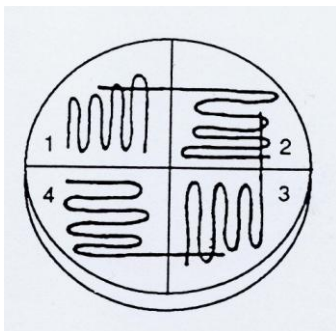

Figure 3
- With the drop of bacteria away from you, streak the culture back and forth from edge to edge in 2 or 3 parallel lines, moving toward you. Be careful not to plunge the loop deep into the agar during streaking. Flame the loop, make another 2 or 3 streaks at about 60°-90° to the first. Make another two repeats of this procedure: flame and streak. **Check Figure 3.**